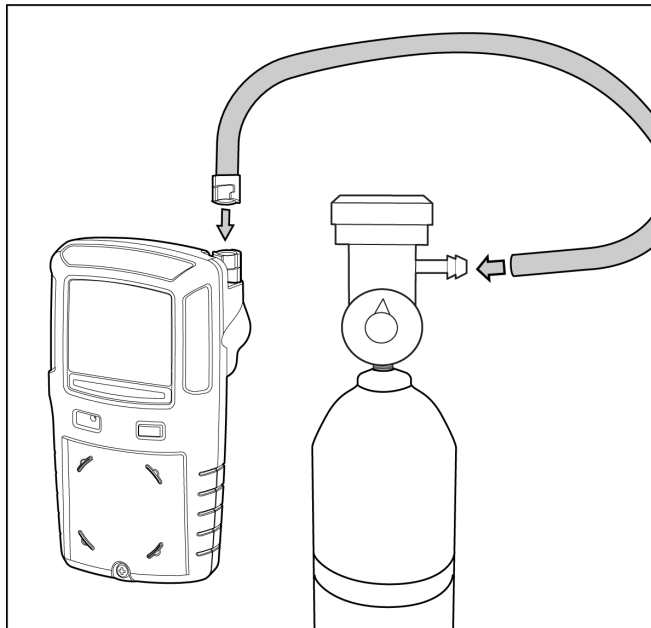

Figure 6. Connecting the Gas Cylinder to the Detector
Refer to the following procedures and Figure 6, to connect the gas cylinder to the detector for calibration.
5. Connect the calibration hose to the regulator on the gas cylinder (Figure 6.).